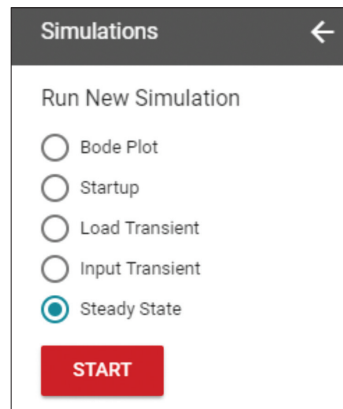

Figure 11.
- In the **'Simulations'** menu, select **Steady State** from the list of simulations as shown in **Figure 11**.